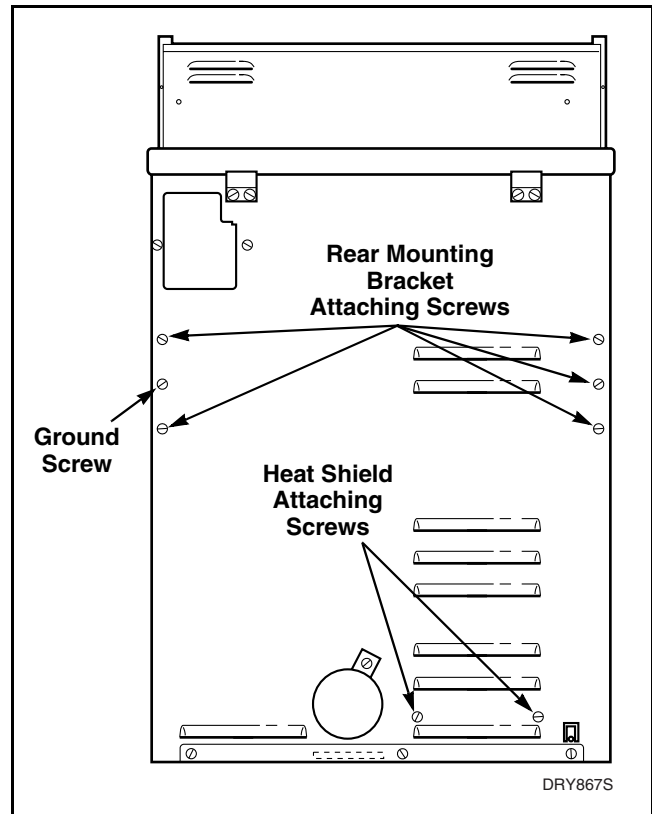

Figure 31
- g. Remove two hex head screws holding heat shield to rear of dryer cabinet. Refer to *Figure 31*.
- g. Remove five screws holding rear mounting brackets to rear of dryer cabinet. Refer to *Figure 31*.
- o. Remove two hex head screws holding heat shield to rear of dryer cabinet. Refer to *Figure 31*.